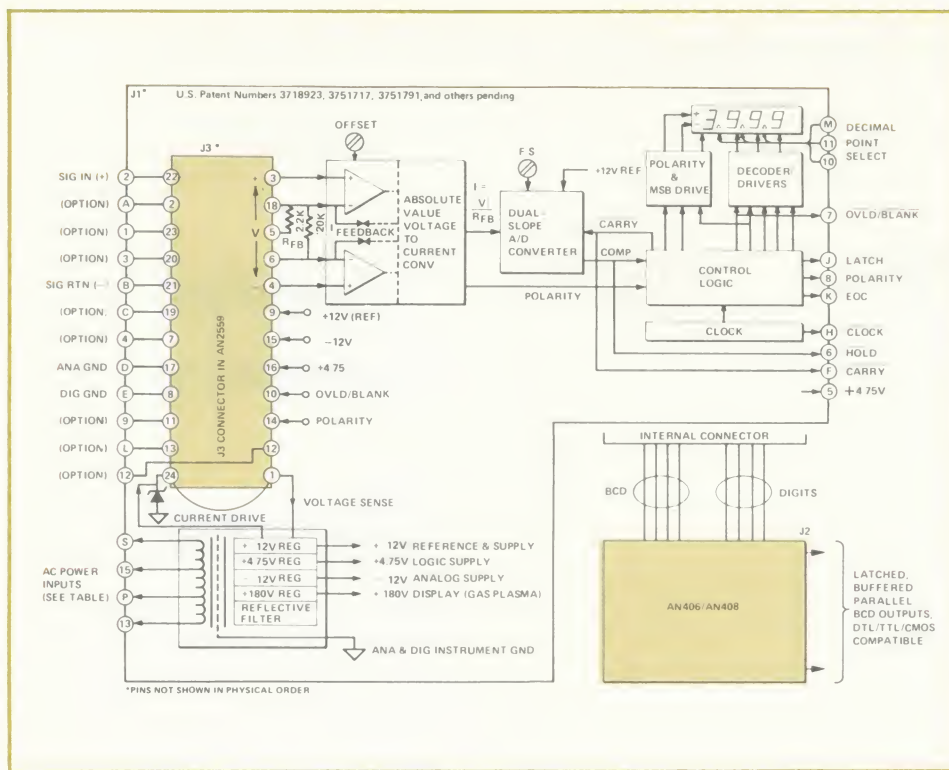
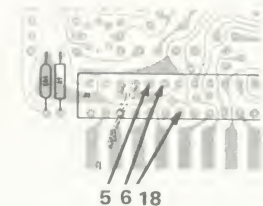

Figure 2. Simplified Schematic Diagram of AN2559.
Figure 6. PC-Board Scaling Connections
As shown in Figure 2, the AN2559 contains a floating true differential front end; an absolute-voltage-to-current converter; a dual slope ratio-metric, current-to-count integrating analog-to-digital converter; clock-driven logic control circuits, decoders, drivers, and displays; and regulated power supplies derived from secondary windings of the universal transformer.
Signal input to connector J1 is conditioned by arbitrary signal conditioning on the analog option card inserted in internal connector J3, resulting in a potential difference (V) at J3, Pins 3 and 4, connected to the non-inverting inputs of the differential input amplifiers. The conditioned signal input (V) develops a unidirectional signal current (I) whose magnitude depends on the value of the selected feedback resistance ( $R_{FB}$ ), according to the simple Ohm's Law formula shown in Figure 2. The signal current linearly charges a high quality, low leakage, integrating capacitor during the signal integration phase of the dual-slope conversion. The current generation circuit also includes the polarity sensing for display.
With a  $20,000\Omega$  feedback resistor ( $R_{FB}$ ) connected as shown in Figure 2, the DPI is normally calibrated at the factory for a full-scale range of 4 volts/4,000 counts. A thermally tracking internal resistor ( $2,200\Omega$ ) may be connected in parallel with the  $20,000\text{-ohm}$  resistor by connecting pins 5 and 6 on J3. See Figure 6. The parallel resistance of 2000 ohms provides the user-selectable sensitivity of  $100mV/1,000\text{ counts}$  ( $100\mu V/\text{count}$ ).
To hold a displayed reading, gate a HOLD command (the comparator output shown in Figure 2) with the rising edge of EOC (available at J1, Pin K). Then, generate a DTL low level signal (HOLD). When applied to Pin 6 of J1, the HOLD signal will keep the last conversion displayed, while the DPI continues to update the measurement internally. When HOLD is removed, the next valid measurement is transferred to the display latches.